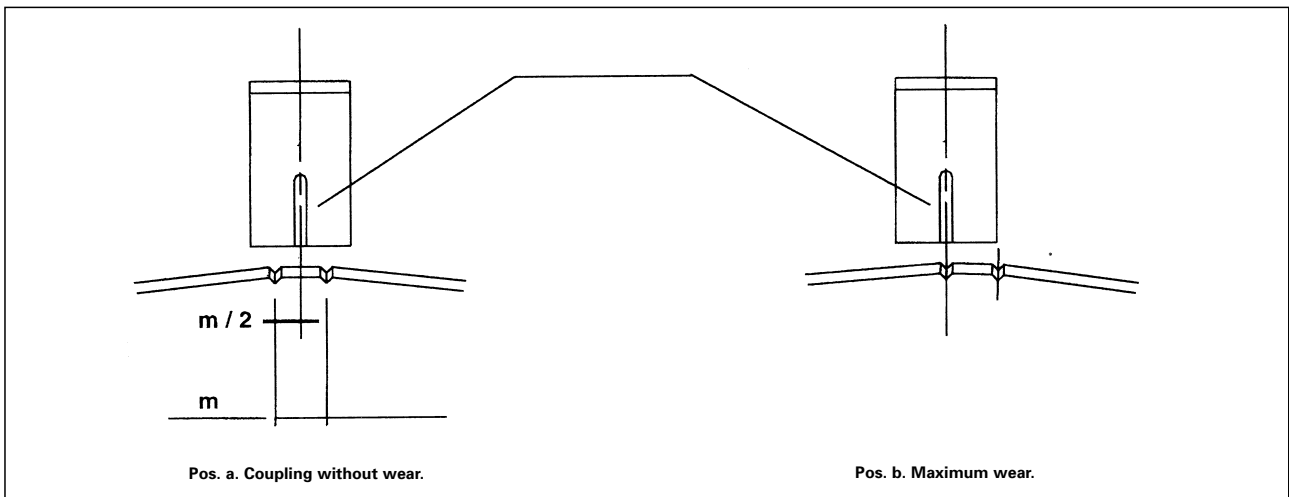

Fig 18 Wear of the coupling.
- b) Internal wear of the toothing. Wear may be checked by means of the position of the indicator mark over the marks on the hub (Fig. 18). The relative position of the two marks reveals the wear of the flanks.